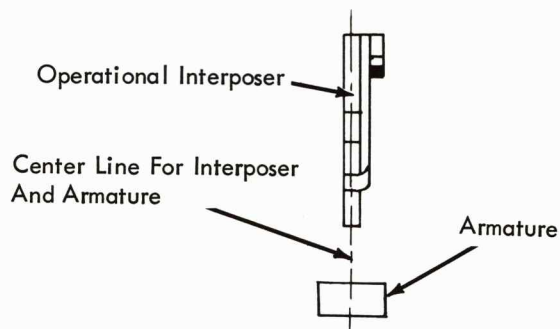

FIGURE 125. Left to Right
- Left to Right - so that the armatures are directly beneath their corresponding interposers (Fig. 125).